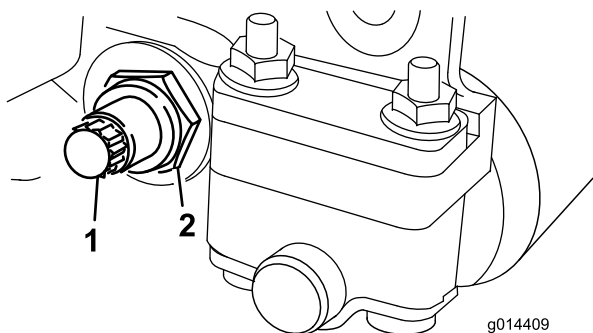

Figure 20
3. On each side of the machine, loosen the locknut securing the bedbar bolt (Figure 20).
4. Remove each bedbar bolt allowing the bedbar to be pulled downward and removed from the machine bolt (Figure 20).